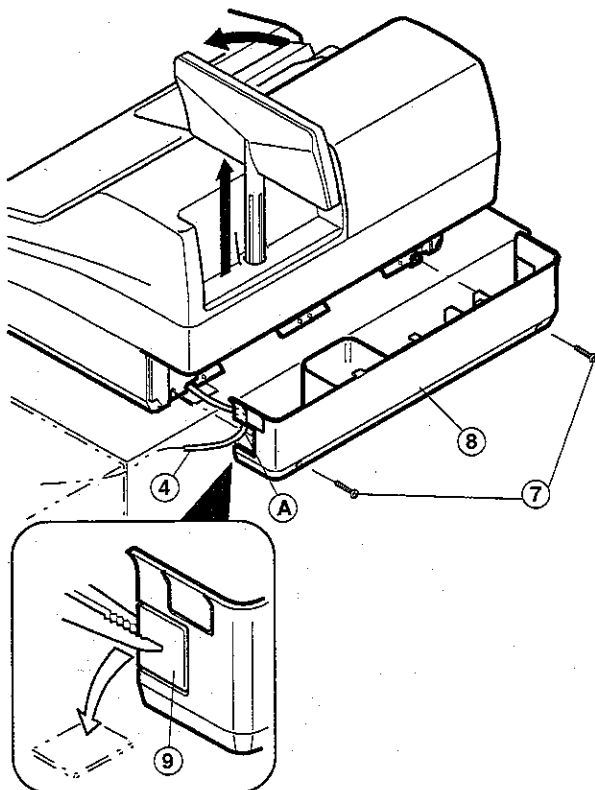

Fig. 3
- 7) Remove two rear cover holding screws ⑦ and remove the rear cover ⑧ (Fig.3).
- 8) Break open the knockout ⑨ of the rear cover ⑧ using the tool (Fig.3).
- 9) Route the option drawer cable ④ through the hole ① and fasten the rear cover (Fig.3).